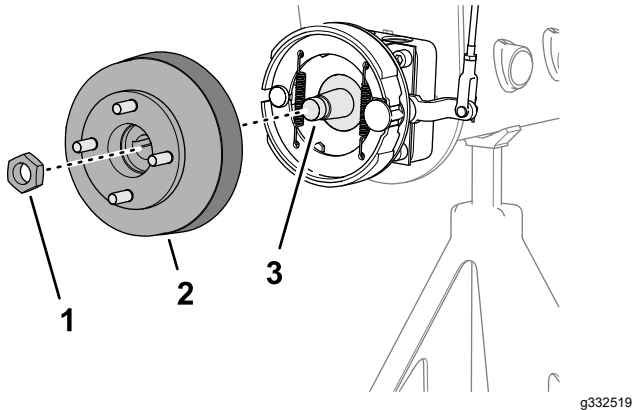
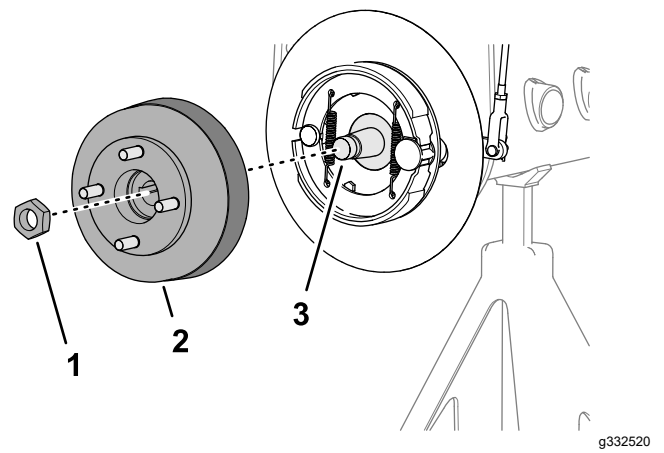

Figure 75
Figure 76
1. Remove the locknut that secures the hub to the wheel-motor shaft (Figure 75 or Figure 76).
4. Use the specified wheel hub puller to remove wheel hub and brake drum from the wheel-motor shaft (Figure 75 or Figure 76).